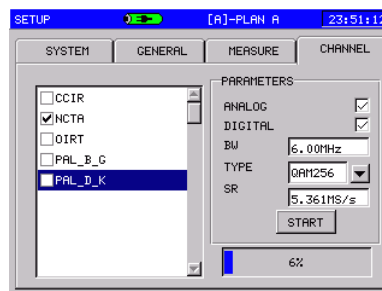

Figure3-1-6
- Press  to turn into Parameter setting, you can define the channel plan as Analogue channel plan, digital channel plan or analog/digital mixed channel plan. Also you can edit "Bandwidth, Modulation type, Symbol Rate" in digital channel plan. When your setup is finished, please press  to "START", then press knob to create your user channel plan. For a while, new user plan will be saved automatically. Refer to Figure3-1-6.